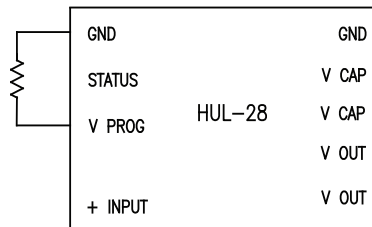
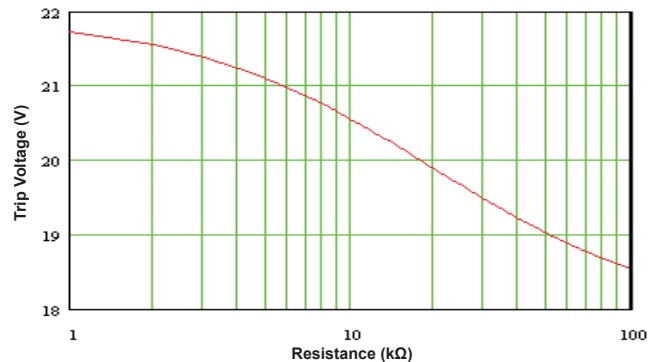

Figure A7. External resistor method for obtaining a trip voltage greater than 18V
Figure A8. Trip voltage as a function of resistance connected between V_{PROG} and GND
- b. For a trip voltage greater than 18V, connect a resistor between V_{PROG} and GND as shown in figure A7. The trip voltage can be estimated from figure A8.